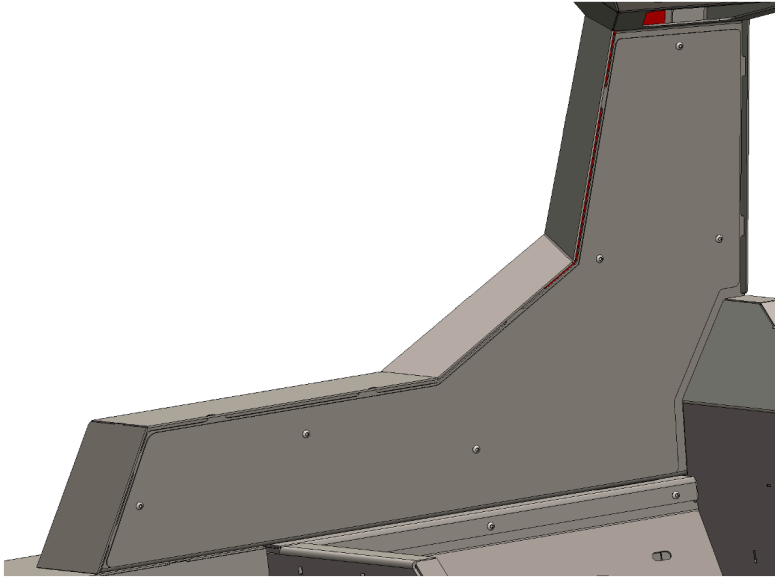

Figure 23.
25. Install the riser cover plates (22858 and 22859) using six (6) M6 button head bolts. Figure 23.